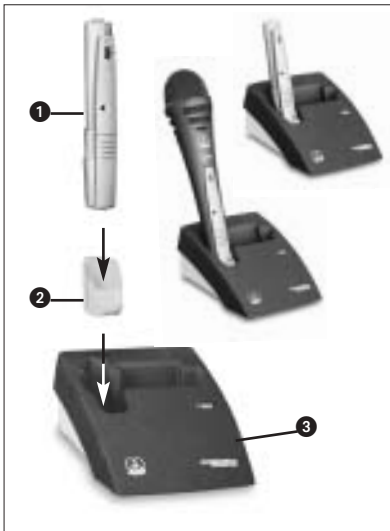

Fig. 3: Using the CU 40 optional charger.
Refer to fig. 3:
To charge the battery, insert the transmitter module (1) into the CA 40 adapter (2) and the adapter into the optional CU 40 charger (3) as shown in fig. 3. For details, refer to the CU 40 charger manual.